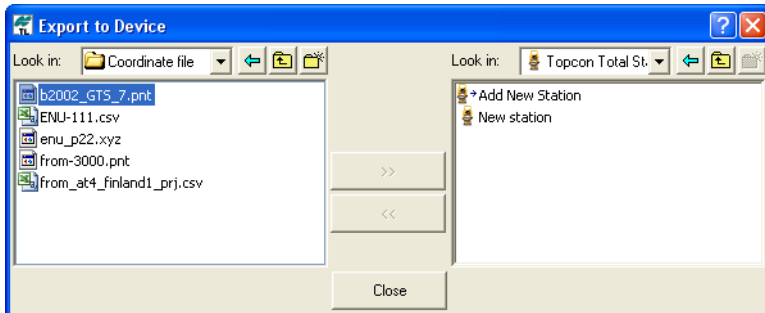

Figure B-5. Add New Station
4. In the right panel, select “Topcon Total Station” from the Look in drop-down list. Click **Add New Station** in the right panel (Figure B-5).